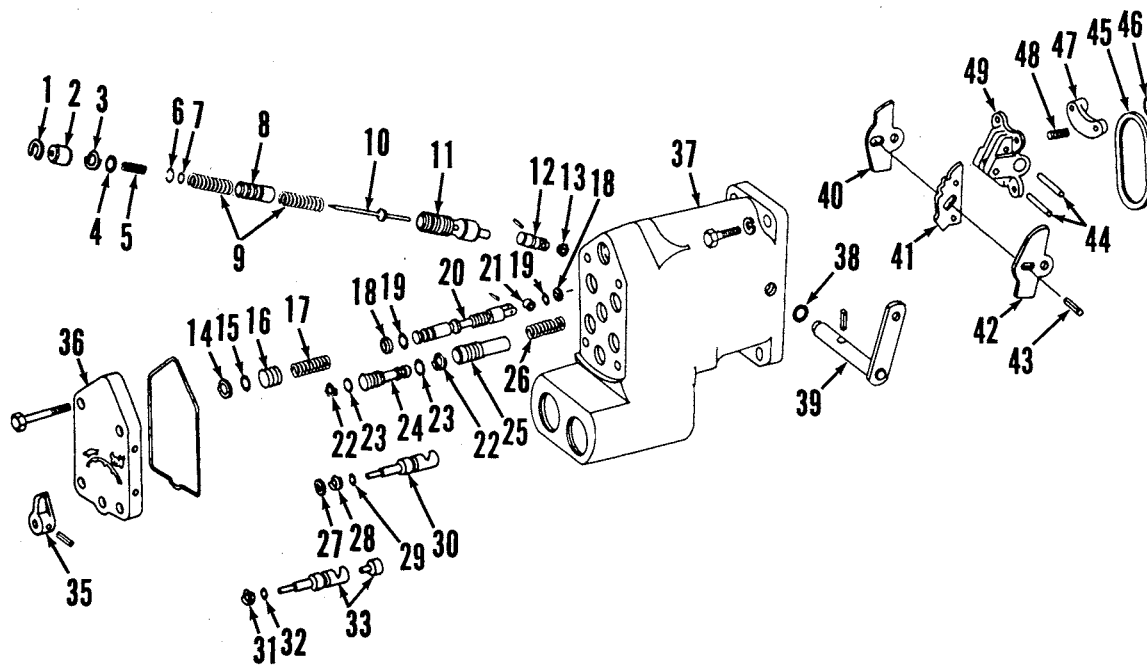
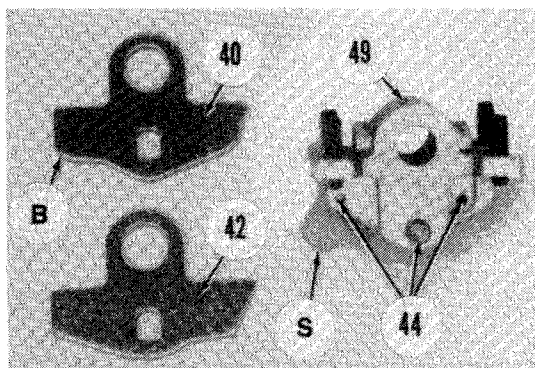

Fig. 264—Exploded view of selective control valve (SCV) assembly used on all models.
Fig. 266—Regular cam (40) can be identified by beveled corner (B) while float cam (42) has a sharper corner.
As with all other units of the hydraulic system, pressure is always present at the valves, but no flow exists until the valve is actuated. Refer to Fig. 264 for an exploded view of valve mechanism. The console control lever actuates two valve operating cams (40 and 42) and a detent cam (41). The operating cams open return and pressure poppet valves to provide
244. OVERHAUL. Refer to Fig. 264 for an exploded view of the selective control valve. Unbolt and remove valve cap (36) carefully as poppet valve springs are compressed. Remove return valves and pressure valves with associated parts. Keep components separated and identified in order of removal as valves and springs must be returned to their original bores. Remove flow control stop (24) and valve (25). Depress detent guide (2), then remove retaining ring (1). Remove guide, "O" rings, back-up rings and detent piston assembly from housing. Removal of detent piston (11) and cam follower (12) may be easier after rocker assembly is removed.
To reassemble, proceed as follows: Assemble detent cartridge using a vise or other suitable means to compress springs. Install detent cartridge in housing bore making sure long end of detent pin (10—Fig. 264) is facing outward. Do not install cam follower (12) at this time. Install new "O" ring and back-up ring into detent bore, then install spring (5), guide (2) and retaining ring (1).
Install detent cam in rocker (49—Fig. 266) with float stop (S) positioned as shown, then install retaining pins (44). Position regular cam (40) and float cam (42) on rocker. Regular cam can be identified by the beveled corner (B). Install detent cam follower (12—Fig. 264) in housing bore, then install rocker assembly and operating arm into housing.
(36—Fig. 264), valve guides (16) and springs (17) if not already removed. Install JDH-15C adjusting cover (1—Fig. 267) with the angled screw (2) pointing at detent piston pin. It may be necessary to grind some material from bottom of adjusting cover (B) to prevent interference between cover and valve housing. Use flat washers as required between cover and housing to prevent mounting cap screws from bottoming out in housing.